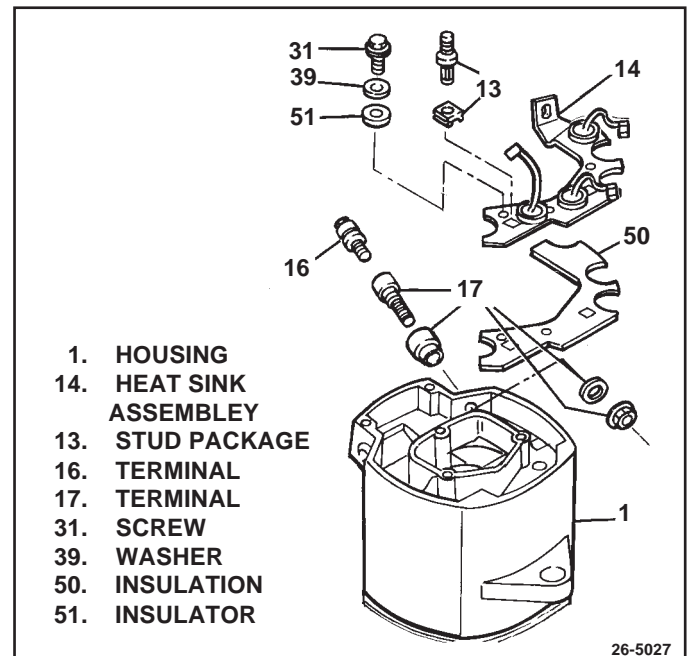

Figure 35. Installing Heat Sink
Using silicone dielectric grease (1974984) for heat transfer, coat mounting area in rectifier end housing and both sides of insulator to be placed between diode heat sink and rectifier housing. Place insulator flat in rectifier end housing over mounting holes. Coat back side of heat sink with same grease, in the area where it will contact the housing. Position inside insulating washer for output terminal between hole in housing and slot in heat sink. Install heat sink assembly (14) to rectifier end housing (1) over insulator (50), aligning mounting holes. Install insulators (51), flat washers (39), and 2 heat sink attaching screws (31) that will not have electrical connections. (See Fig. 35) Insulators must be next to the heat sink. Finger tighten screws. Edge of insulator should be visible all around heat sink.